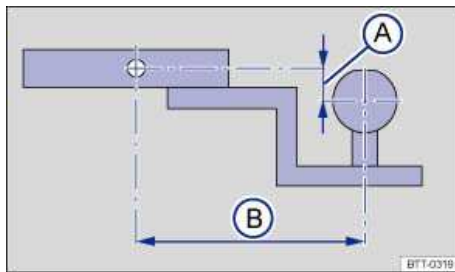

Fig. 117 Dimensions of the ball mount support.
⇒ fig. 117 (A), and the pin-to-ball distance (B).